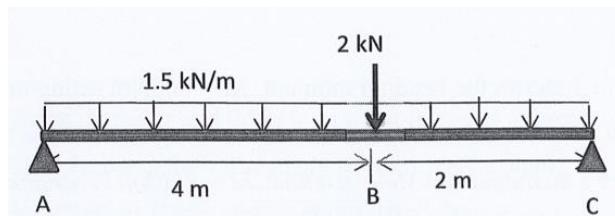

Figure 1 / Rajah 1
- (b) Determine the bending moment value along the beam and sketch the bending moment diagram as shown at **Figure 1**.